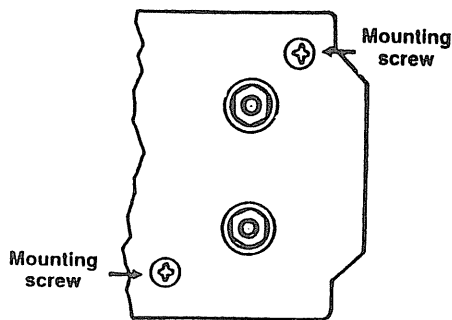

FIG. 3 IGNITOR MOUNTING
- D. If no fault is found in A through C, remove the ignitor from the baseplate by removing two screws on underside of baseplate (Fig 3).
- D. Should the entire cell assembly require replacement, disconnect leads from P.C. board terminal strip, and remove ignitor (Step 1). Refer to Fig. 3. Remove 2 screws from control cover, and release cover from baseplate with a small screwdriver (Fig. 6).